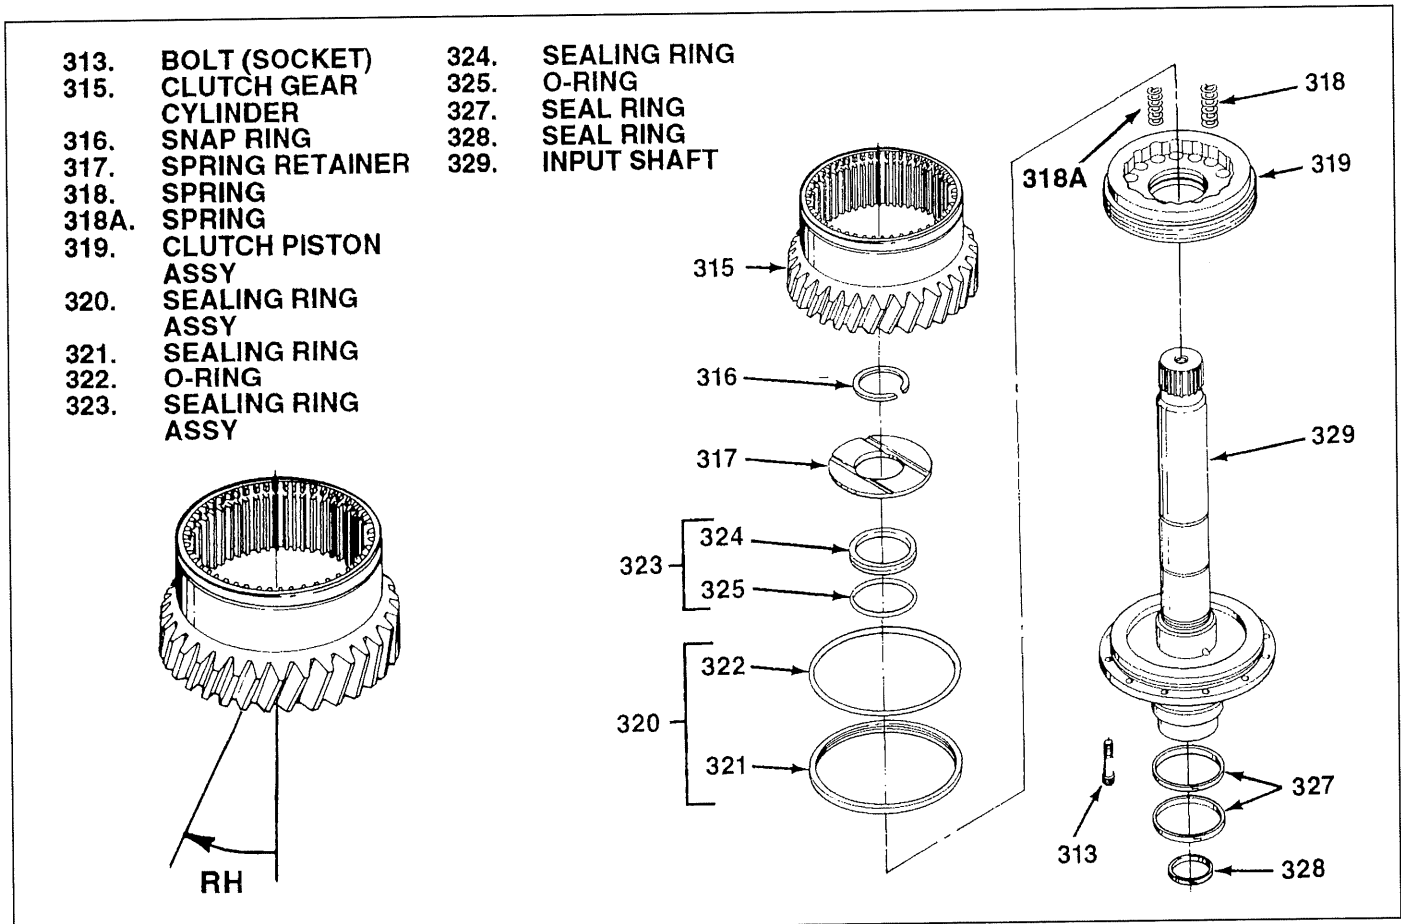
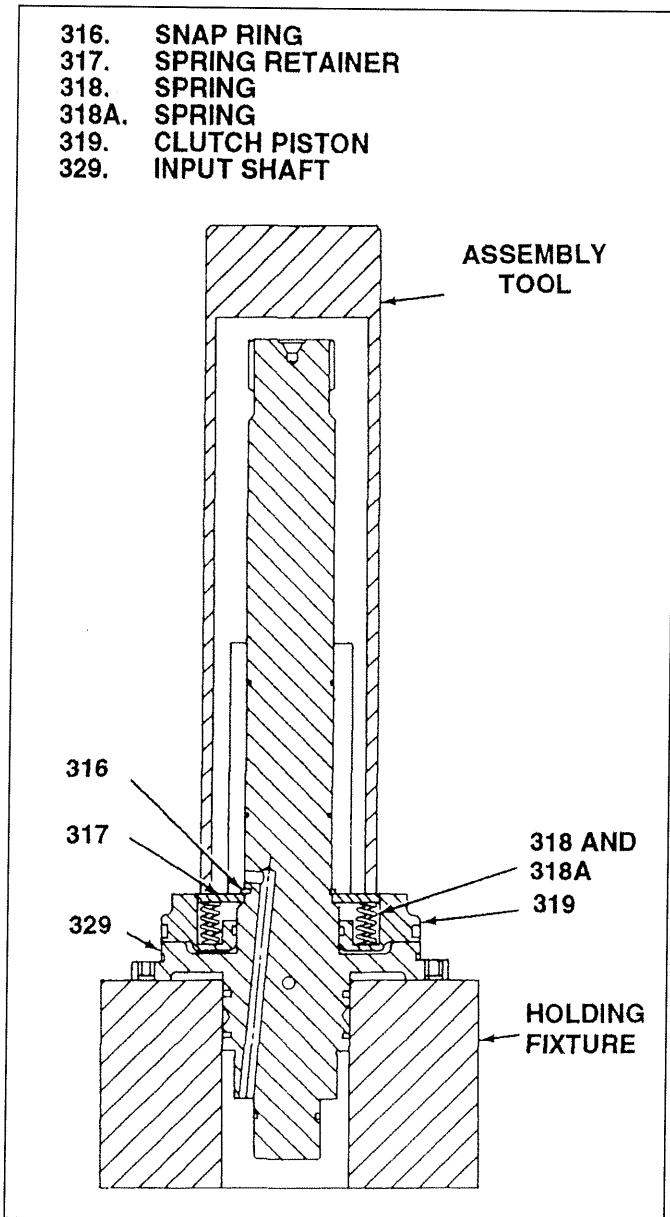

Figure 5-5: Input Clutch Cylinder Piston
Figure 5-6: Installing Snap Ring
5-9 ASSEMBLY OF CLUTCH PISTON AND CYLINDER Assemble input clutch piston and cylinder as follows (see figure 5-5):
3. Install clutch piston assembly (319) on input shaft (329) with sixteen spring holes facing away from shaft flange. Seat piston against shaft flange.
4. Support input shaft with piston, o-rings and seal rings (319 through 329) in suitable holding fixture (see figure 5-6) in arbor press.
5. Install springs (318, and if used 318A) in holes in clutch piston assembly (319) as follows: First install four springs (318) equally spaced. Then install three springs (318A) between each of the springs (318) — twelve springs (318A) total.
6. Install spring retainer (317). Expand snap ring (316) and slide onto shaft up against spring retainer (317).
7. Press down on spring retainer (317) to compress springs (318, and if used 318A) and provide access to shaft groove for snap ring (316). Install snap ring in shaft groove. Remove shaft assembly, holding fixture and assembly tool from arbor press. Remove assembly tool from shaft assembly.
8. The helical on the input clutch gear must be right handed. That means the teeth must be inclined to the right when viewed from the face of the gear (see figure 5-5). If the incorrect helical (lay clutch) gear is installed there may be resulting damage to the rear lay shaft bearing.
9. Using guide pins install clutch gear cylinder (315) over clutch piston assembly (319) and onto input shaft (329). Install twelve bolts (313). Torque bolts to 16-18 lb-ft (22-25 Nm).